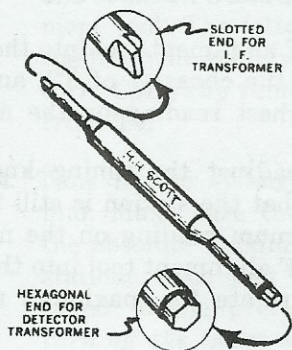

FIGURE 17
One end of the alignment tool is for adjusting the IF transformers and the other end is for the detector. See fig. 17. As part of the detector alignment procedure, a unique method has been devised which utilizes a small capacitor (CC .05) which will be found in one of the small hardware envelopes. For ease of use, connect each end of the CC .05 to an alligator clip. Make a good mechanical connection to the clips. You may solder if you wish.
- 6. Insert the IF alignment tool (see fig. 17) into the top (above the chassis) of T2 (skip T1 for the moment) until the end of the tool makes contact with the tuning slug inside. The slug may be over a half inch inside the transformer. Rotate the tuning slug slowly back and forth with the alignment tool while *carefully* watching the tuning meter for the highest reading. At this time the meter action may be small, so you have to *look carefully* to insure getting the highest point. You will have to rotate the slug both clockwise and counterclockwise to locate this maximum position. A scraping noise will be audible as the slug is turned. This is normal. *At the extreme clockwise and counter-clockwise position of the slug there is a stop beyond which you should not turn.* Do no force beyond this point as this will damage the transformer cans. It is possible for the maximum reading to occur at a stop.